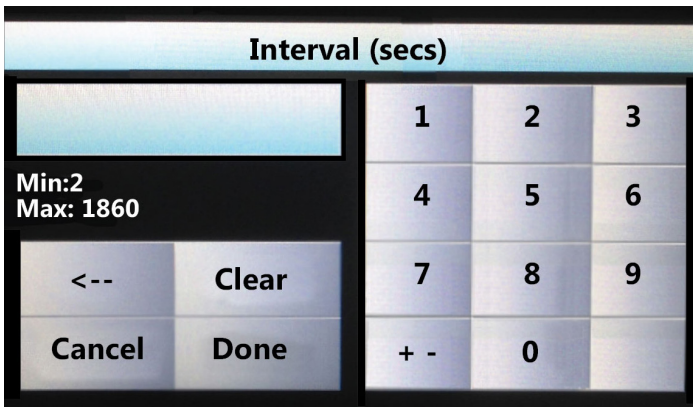

Fig. 59: Interval Keypad - Set Seconds
3. Use the Keypad to change the value in the INTERVAL box (Fig. 59).